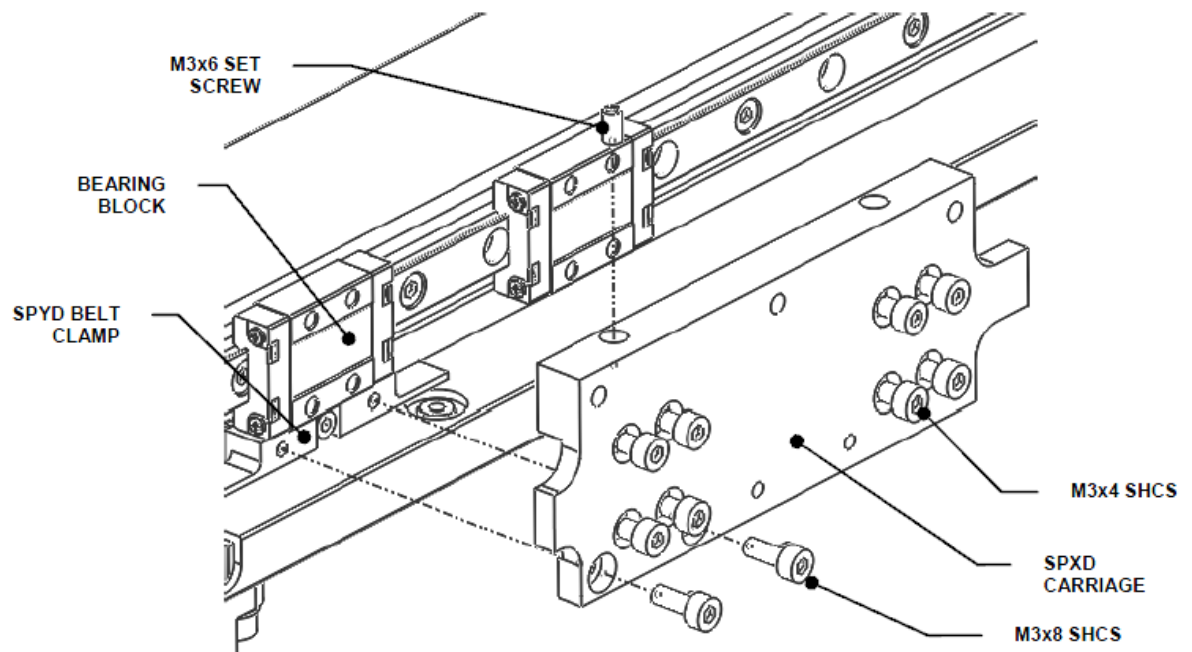

Figure S-10: Removing the Sample Pipette X Drive Carriage
2. Remove the Sample Pipette X Drive Carriage (Figure S-10).
2. Loosely mount the X drive Carriage to the two bearing blocks using eight M3x4 Socket Head Cap Screws (with Loctite 222 (Figure S-10). Screw down two M3x6 Set Screw with a 3in-lb driver in order to push the linear bearings against the provided step on the SPXD Carriage. Then fully tighten the M3x4 screws using a 10in-lb driver. Fix the Y Drive Belt Clamp using two M3x8 Socket Head Cap Screws and Loctite 222.